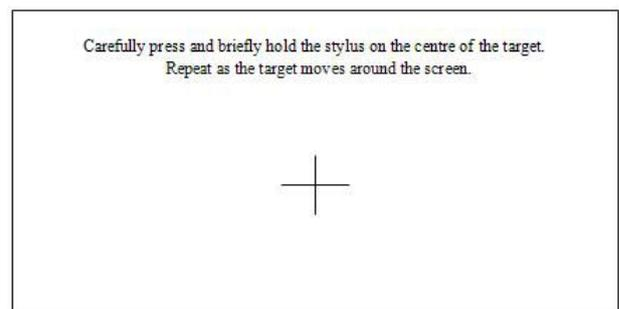

Figure 2-2
- ① If there is an error touchscreen tap, select "Calibration", then enter the interface shown in Figure 2-2,